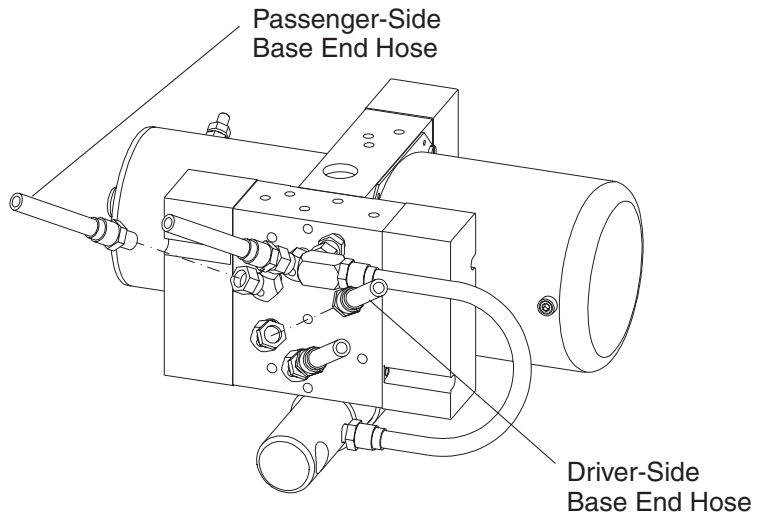

Figure 21
18. Attach to 45° swivel fittings on the hydraulic unit. (See Figure 21.)